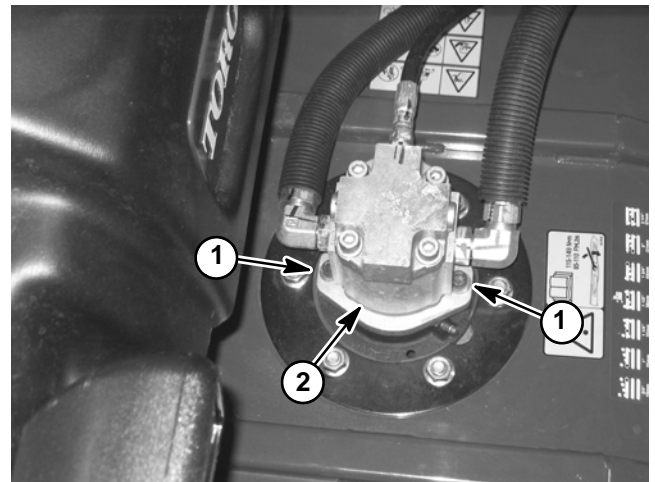

Figure 4
2. Remove two (2) socket head screws and flat washers that secure hydraulic motor to the cutting deck (Fig. 4). Remove hydraulic motor and O-ring from deck.
6. Remove six (6) flange nuts that secure spindle assembly to cutting deck. Slide spindle assembly out the bottom of the deck. Remove spindle plate from top of deck.